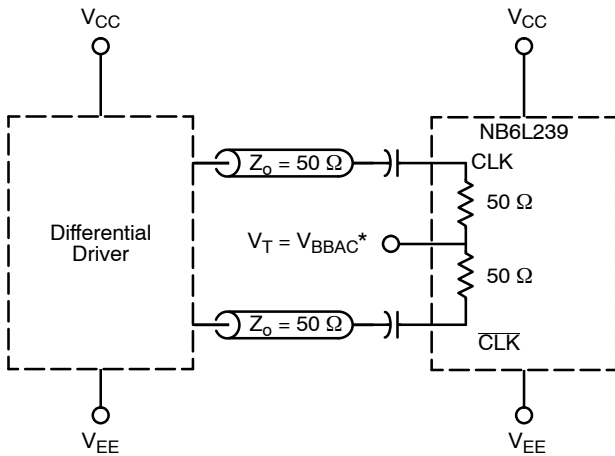

Figure 16. Capacitor-Coupled Differential Interface (V_T Connected to V_{BBAC})
- V_{BBAC} used to rebias capacitor-coupled inputs only (see Figures 16 and 17).